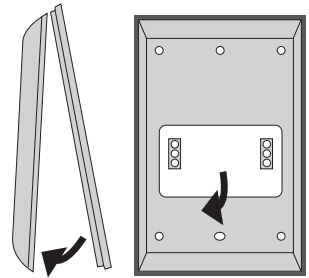

Fig. No. 4
2. Detach keyboard holder from EKB2 keyboard by gently pulling the holder towards yourself (see Fig. No. 4).